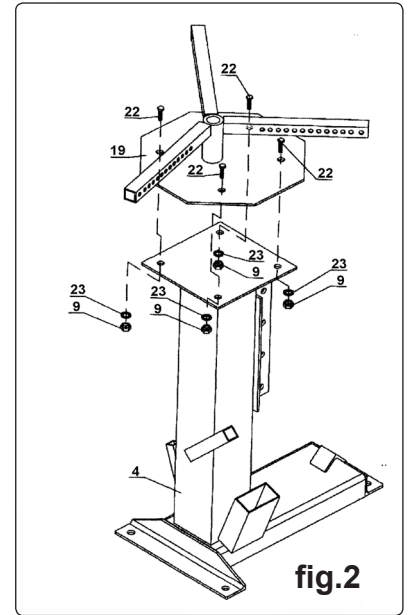

fig.2
- 3.1 Attach the Jaw Frame (19) to the Main Stand (4), using bolts (22), washers (23) and lock nuts (9) (fig.2).